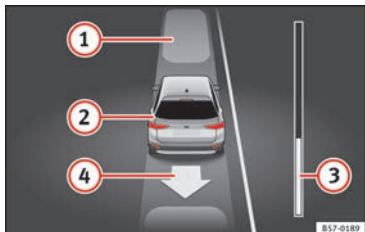

Fig. 222 On the instrument panel display: exiting a parallel parking space.
Key to the **Fig. 222**:
The progress bar » Fig. 222 ③ indicates the distance to cover » page 254.